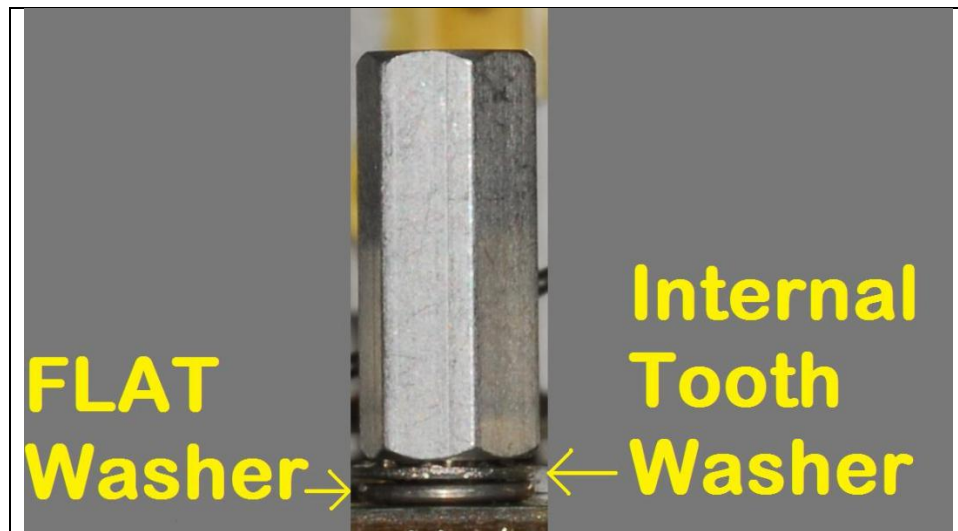

Figure 15
a. In the parts kit, you'll find four (4) standoffs, four (4) flat washers and four (4) internal tooth lock washers. Install the flat washer, internal tooth washer and standoff in the four (4) mounting holes where you removed the four (4) screws. Refer to Figure 15 for assembly details.